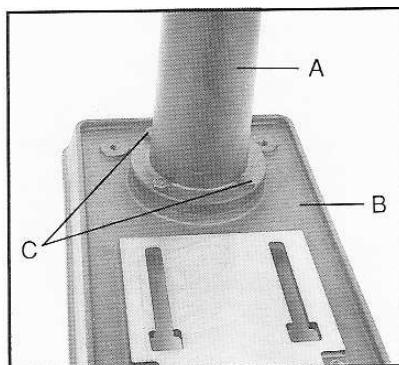

Fig 1
1) to the base (B, Fig. 1) with four M10 hex cap bolts (C, Fig. 1). Tighten firmly.